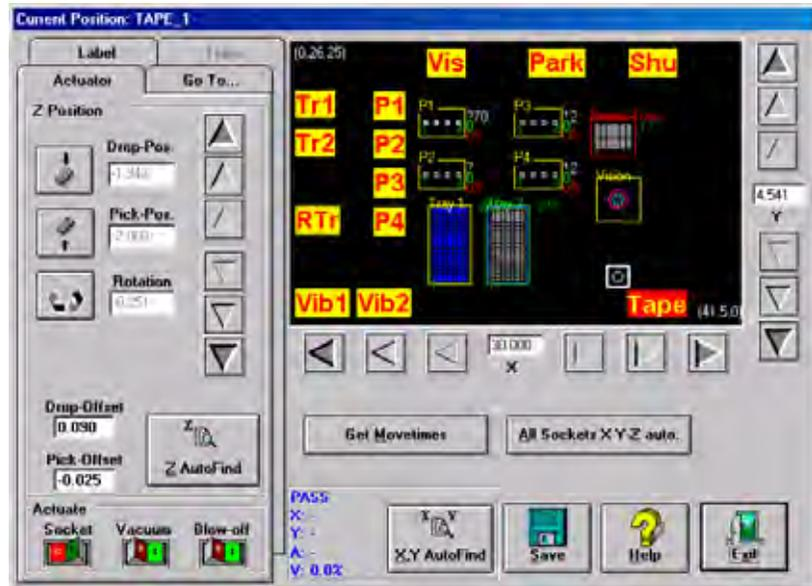

Figure 5-61— Move PNP head to Tape input location
- 1a) From the Gantry window, move the PNP head to the front of the work envelope so it can be easily reached. The Tape input location works well. See *Figure 5-61*.